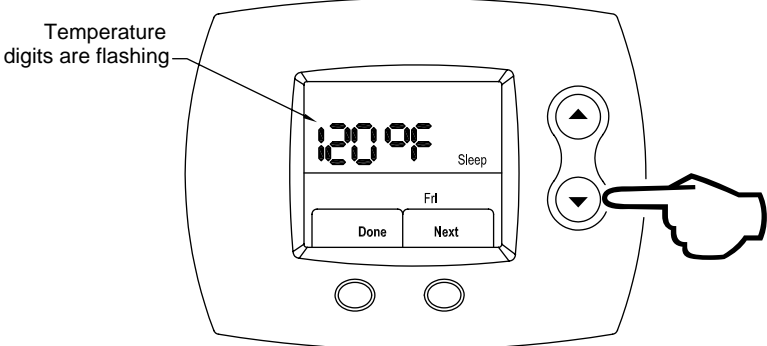

Figure 143
Step 26: Using the **UP** (increase water temperature) or **DOWN** (decrease water temperature) buttons, select the Sleep period desired water temperature. This is shown in Figure 143.